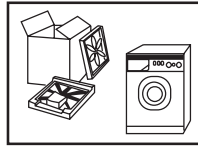
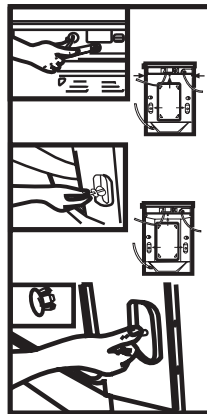

Fig.1
Fig.2
- As shown in figure 1 remove all the packing materials(including the foam base).
- Remove the packing screws as shown in figure 2.
<p>3. Clean the detergent compartment regularly. For the detergent compartment similar to figure (a), raise the compartment slightly to remove and replace after cleaning.</p>  <p>Fig.(a)</p>	<p>4. Cleaning the Filter (once a month). Press the lower edge of the filter compartment Cover to open; (Fig.1-2); Remove the filter by Turning counterclockwise; (Fig.3); Flash clean with running water; Filter replacement is the reverse of removal. Caution: Attention shall be paid to ensure that the filter is replaced correctly to avoid possible leakage.</p>  <p>Fig. 1 Fig. 2 Fig. 3</p>